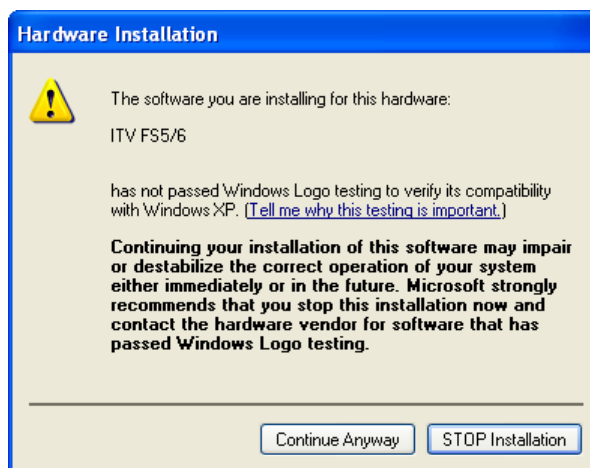

Figure 2.1-12 Installation process continues upon the Windows query
6. Ignore Microsoft notification by clicking **Continue anyway** (Figure 2.1-12).